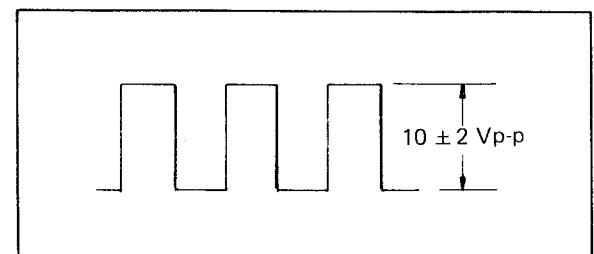

Fig. 6-2 Output of 472.5 Hz OSC.
4. If no reference signal appears on TP-11, connect the oscilloscope to TP-13 (475.2 Hz OCS OUT) and check the waveform on TP-13 as shown in Fig. 6-2.